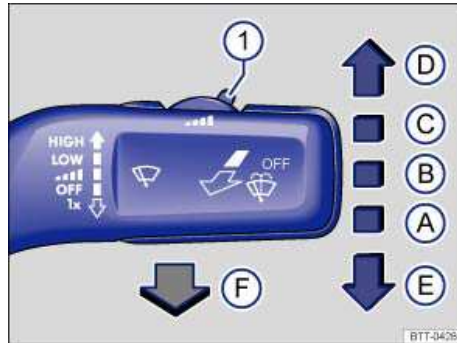

Fig. 78 Operating the front windshield wiper.
- Press the windshield wiper lever down briefly ⇒ fig. 78 (E) when the ignition is off.
Carefully fold the wiper arms back onto the windshield before driving! Switch the ignition on and press the windshield wiper lever down briefly ⇒ fig. 78 (E). The wiper arms move back to their original position.